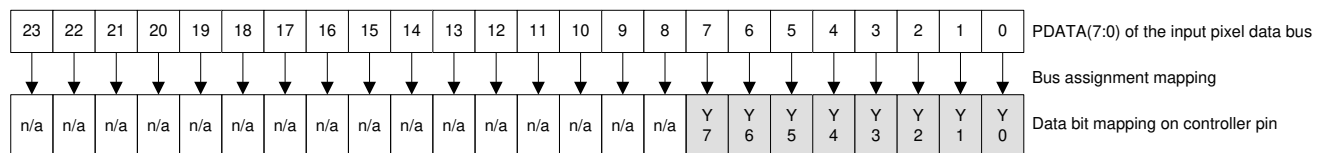

Figure 6-9. BT.656 Interface Mode Bit Mapping
- (1) Calculate clock jitter (in ns) using this formula: $Jitter = [1 / f_{clock} - 5.76 \text{ ns}]$. Clock jitter must maintain setup and hold times. BT.656 data bits must be mapped to the DLPC34xx PDATA bus as shown in Figure 6-9 shows BT.656 bus mode YCbCr 4:2:2 source PDATA (23:0) mapping.
- (2) The BT.656 interface accepts 8-bits per color, 4:2:2 YCbCr data encoded per the industry standard through PDATA(7:0) on the active edge of PCLK. See Figure 6-9.